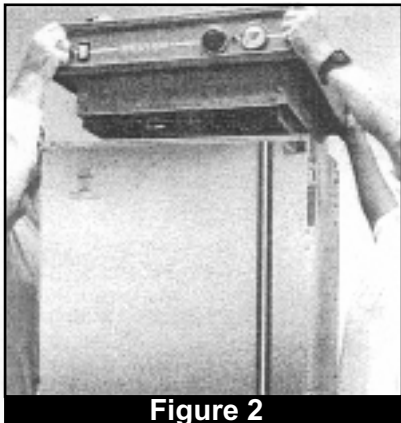

Figure 2
5. Lift off the heating module from the top of the cabinet. (Fig. 2)